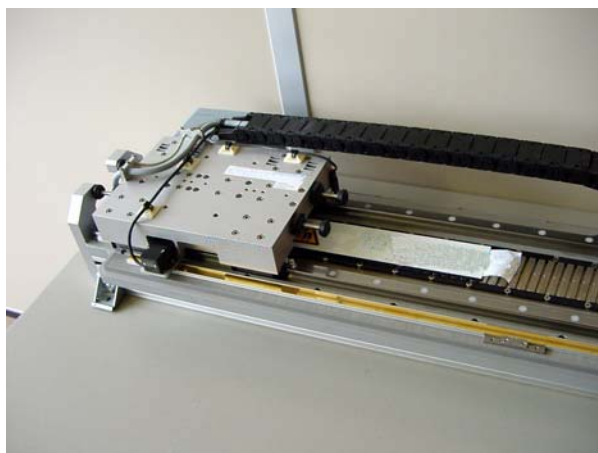

Figure 13: Secure the carriage with a protective plate
3. Remove the protective plate from the assembled magnetic plate, and push the carriage to the other end of the track. Secure the carriage, to prevent unwanted movement (this can be done by replacing the protective plate, see Figure 13). Make sure once again that the support surface is free from dust and small particles.